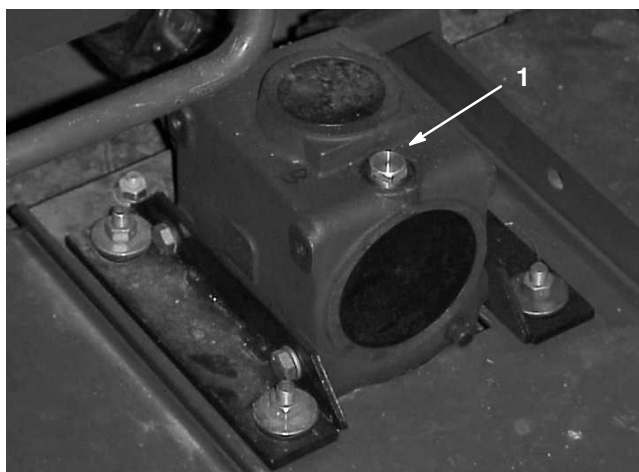

Figure 16
2. Remove the dipstick/fill plug from the top of the gear box (Fig. 16) and make sure that the lubricant is between the marks on the dipstick. If the lubricant level is low, add enough lubricant until the level is between the marks.